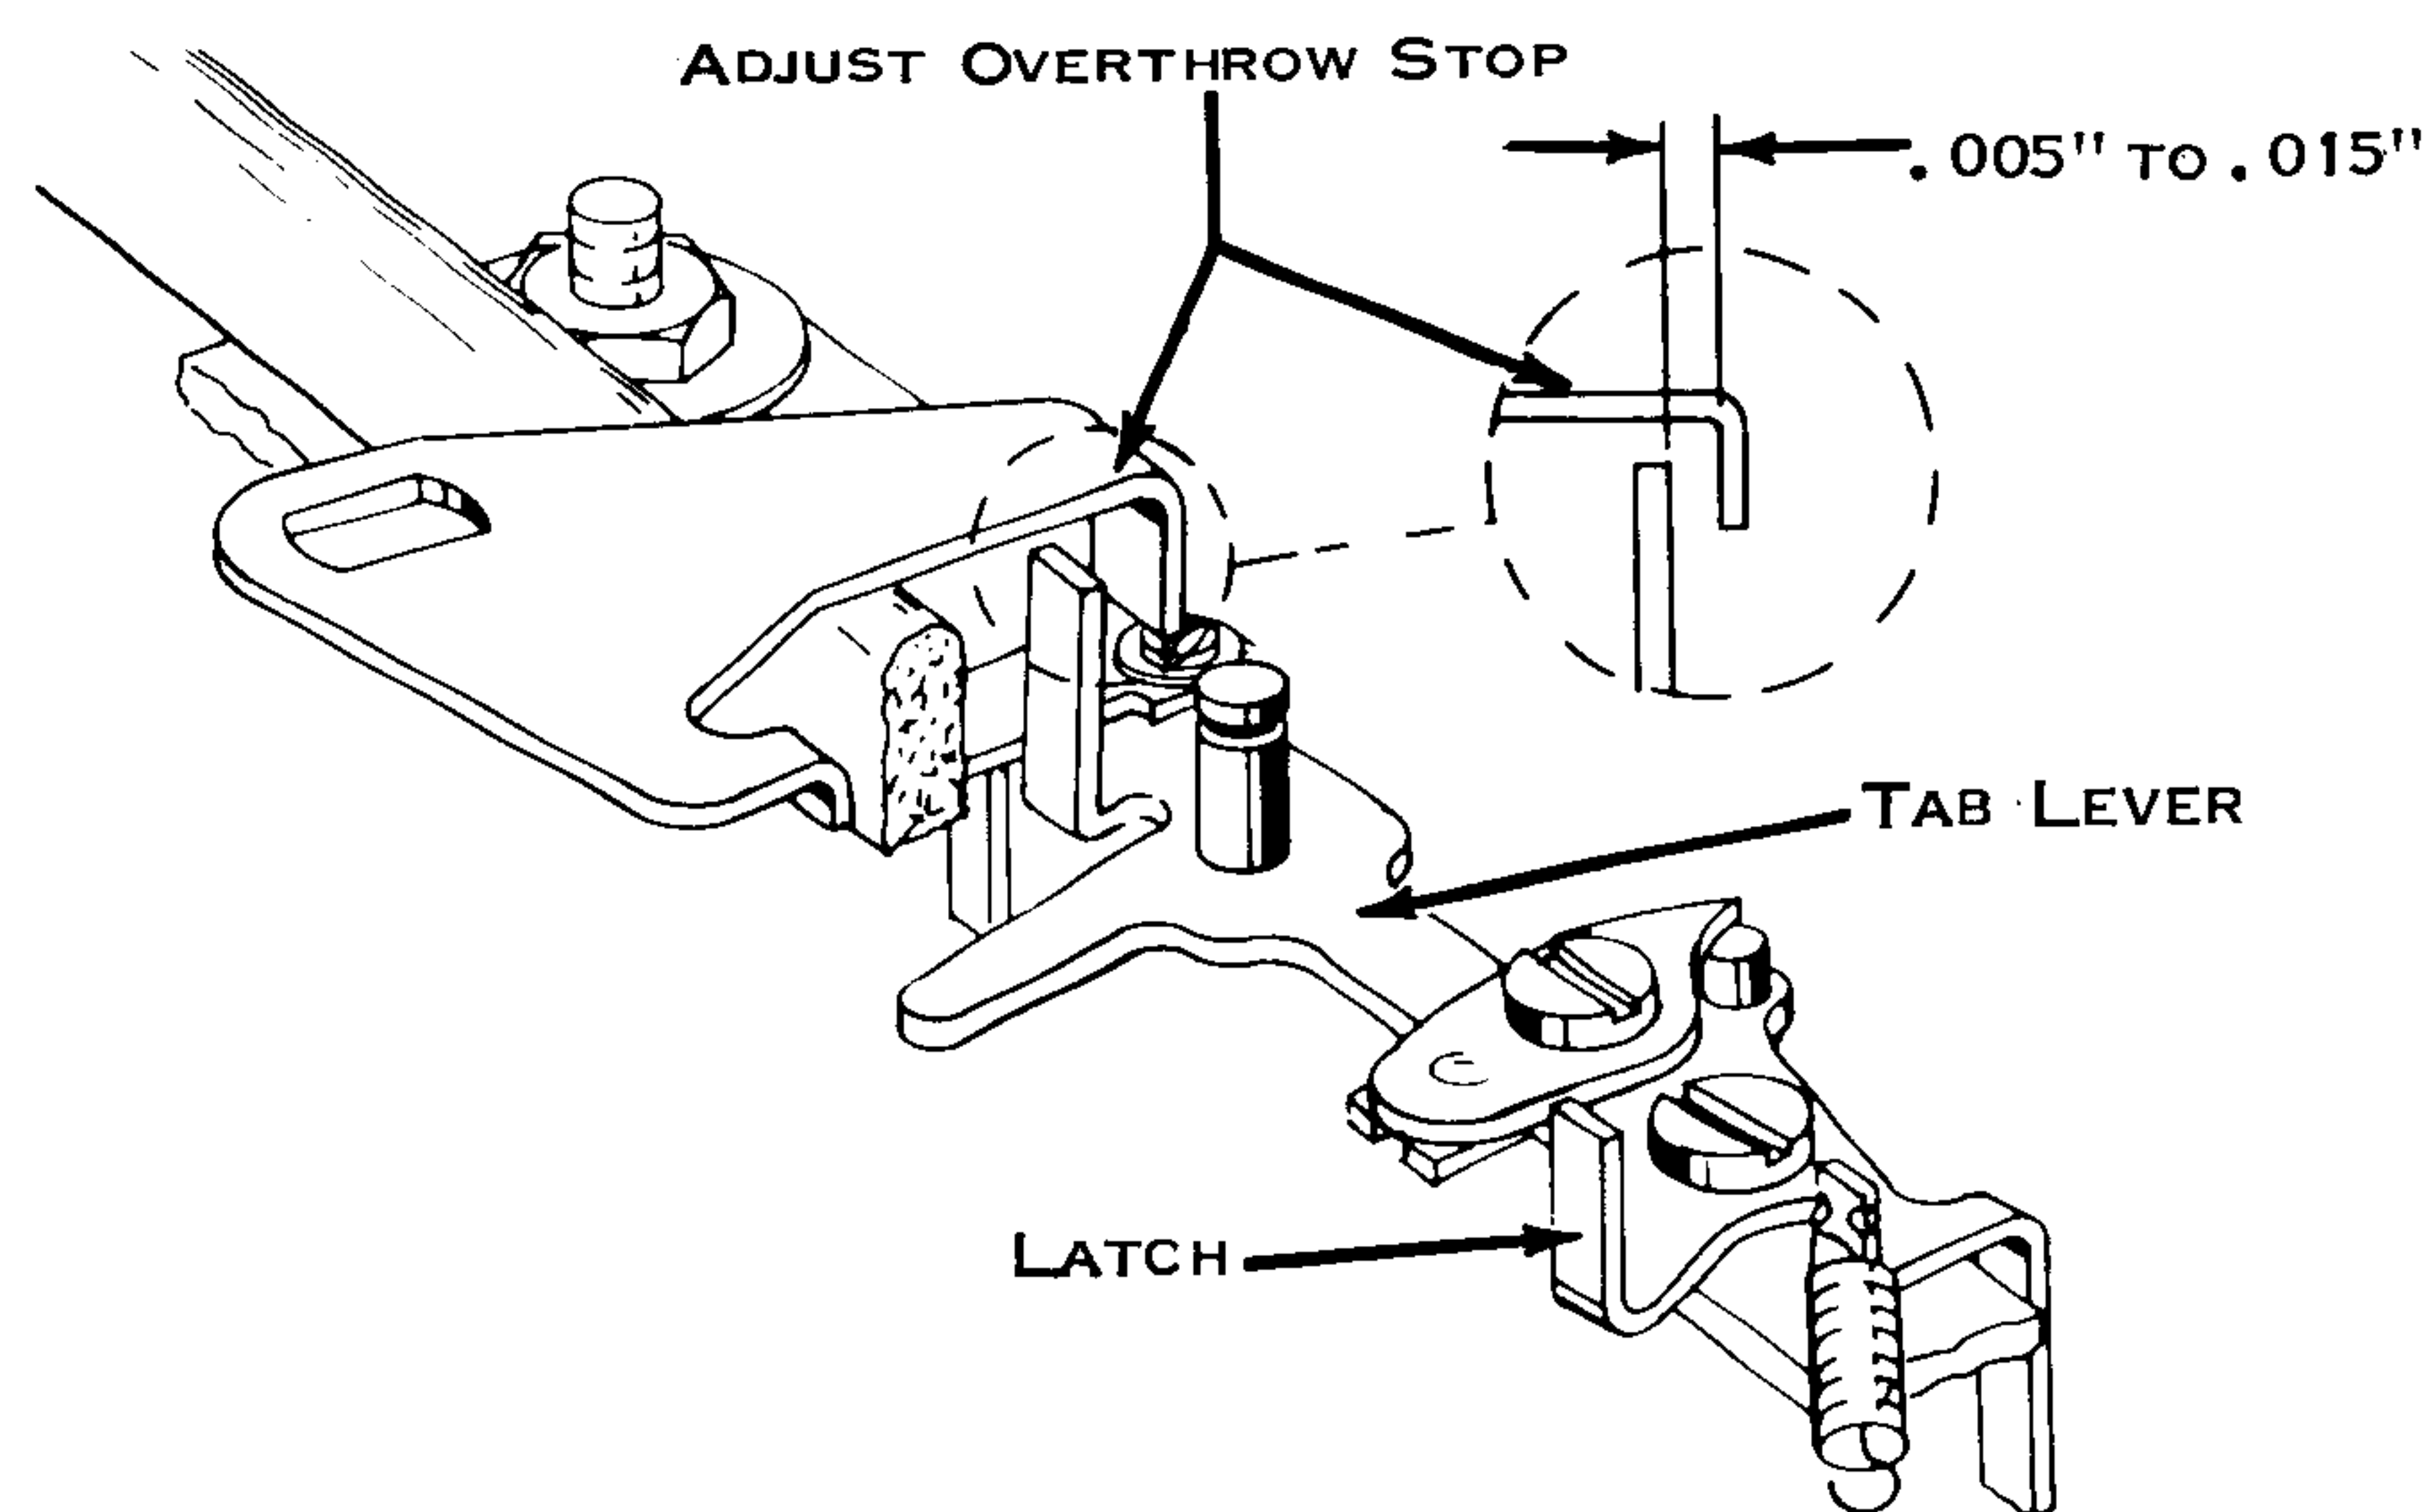

Figure 173. Tab Lever Overthrow Stop
10. Tab Lever Overthrow Stop (Fig. 173) - Adjust forward or back so that .005" to .015" clearance exists between the lug of the tab lever and the overthrow stop when the tab lever is latched to the rear.